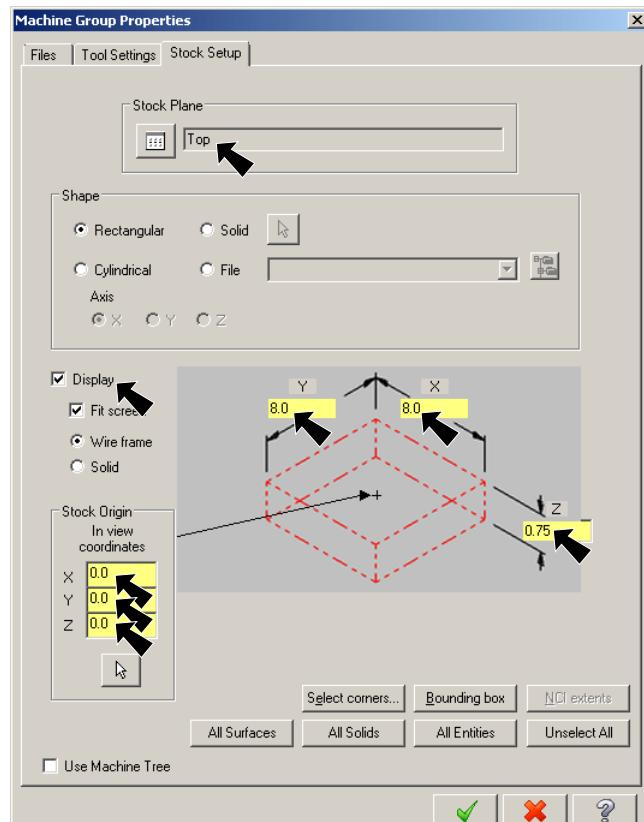

Fig. 48
Step 5. Confirm Stock Plane is **Top**, **Fig. 48**.